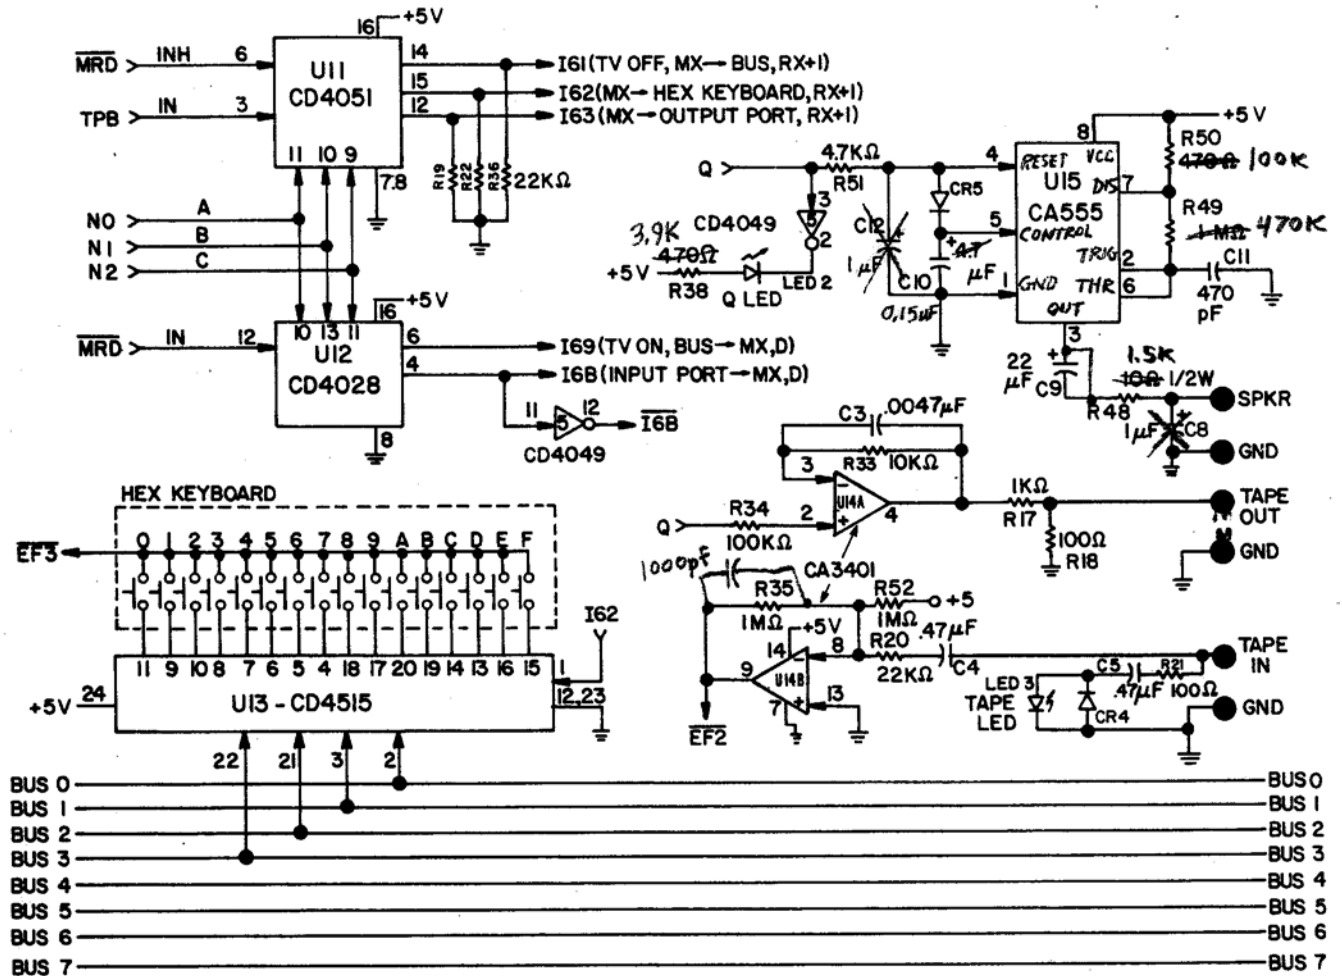

Fig. E-3 - Keyboard, Decoding, Audio Oscillator,
- Fig. E-3 Keyboard, Decoding, Audio Oscillator,